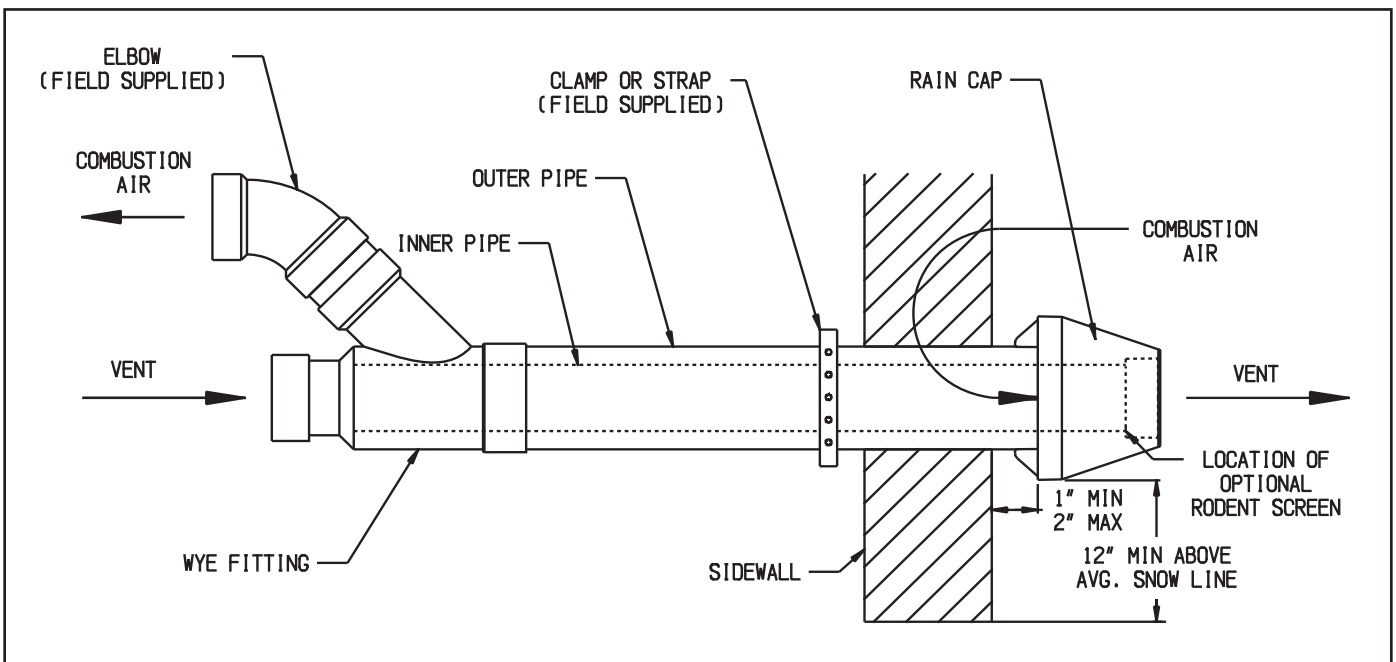
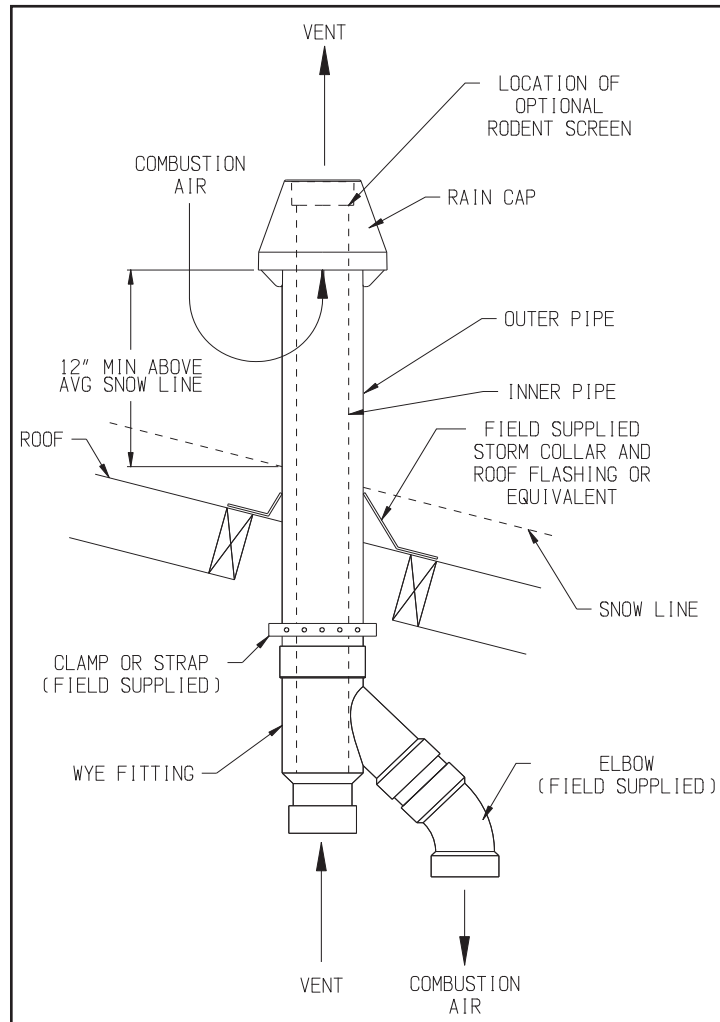

Figure 7.32: Installation of IPEX and Diversitech Concentric Terminal through Sidewall
Figure 7.33: Installation of IPEX and Diversitech Concentric Terminal Through Roof
7. Installation of IPEX FGV or Diversitech CVENT Concentric Vent Terminal (Terminal Options D,E,I & J) - This terminal may be used for either horizontal or vertical venting. See Figure 7.32 for horizontal installation or Figure 7.33 for vertical installation. When PVC is used for venting the 30" CPVC straight section and CPVC elbow supplied must be used prior to connection of the vent system to this terminal. If the vent system is too short to permit this, use the IPEX FGV CPVC terminal: